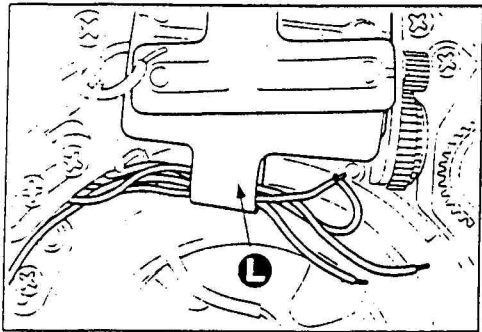

Fig.12
3. Let pass the lead wires, white, yellow, and brown (2 wires) through the flexible board ① and arrange the wires neatly. After that solder the wires. (See Fig. 12.)
4. Screw ⑱ for fastening the A-M switching substrate